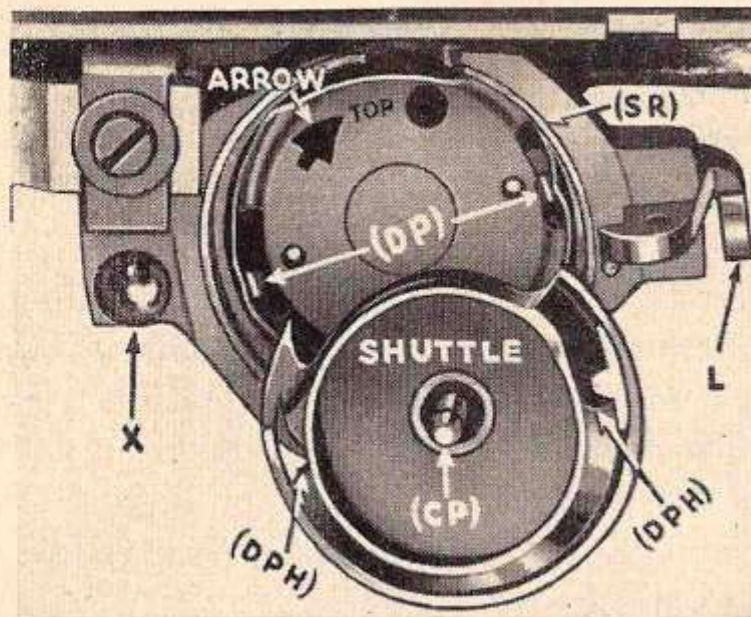

FIGURE 16
the needle just enters the needle plate hole and so the arrow and the word "top" is exactly in the position shown. With the thumb and first finger of the left hand take hold of the center pin (CP) and hold the shuttle exactly in the position as shown in Fig. 16, so the word "top," stamped on shuttle, lines up with the word "top" in driver, then the driving pin holes (DPH) will slide over driving pins (DP) easily, and without forcing, allowing the rim of the shuttle to enter the shuttle race readily. The shuttle race cover will then go into place easily, the fork at one end fitting back of pin (X) and the slot in the other end passing over latch (L) which will snap back to its holding position when the shuttle race cover is pushed back into place.